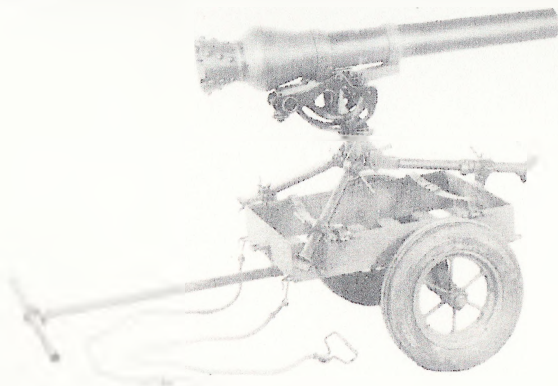

Fig. 36. Recoilless chemical mortar mounted on M4A1 handcart.
a. The M4A1 cart (fig. 36) is the small-wheeled type and has 4-inch by 12-inch aluminum wheels mounted on an offset axle.
c. The cart has special brackets by which the recoilless mortar can be secured to the cart (fig. 36). Ammunition is carried in the cart body and is secured by straps.